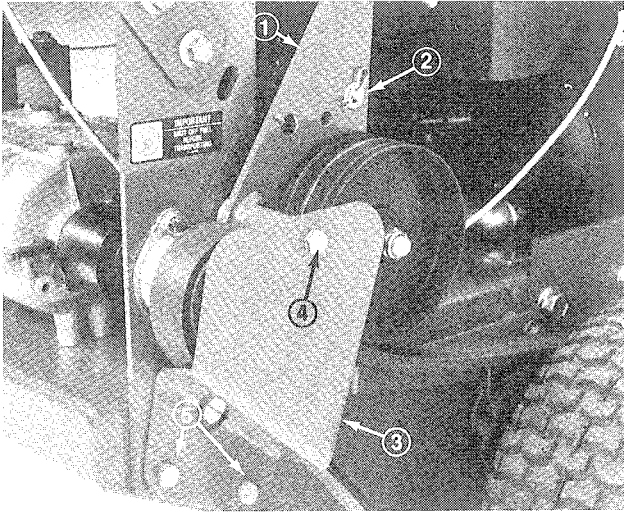

Figure 24
1. Remove top capscrew securing idler support and idler bracket to rear frame (Fig. 24).
2. Loosen bottom two mounting screws enough to allow belt to pass between drive pulley and idler support (Fig. 24).